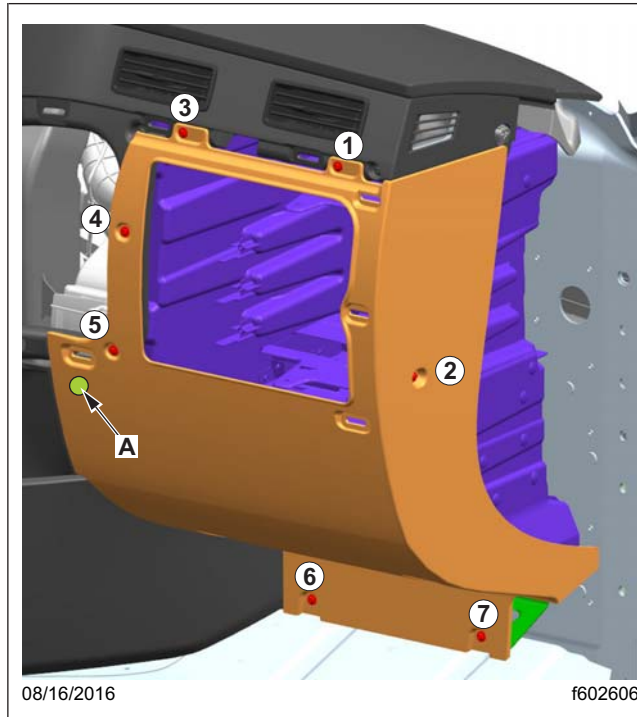

Fig. 16, Right Hand Lower Dash Cover Removal
- 12.1 Remove the right hand lower dash cover. See Fig. 16.
15. Install the right hand lower dash cover. See Fig. 16. For instructions, see **Section 60.06** of the *New Cascadia Workshop Manual*.